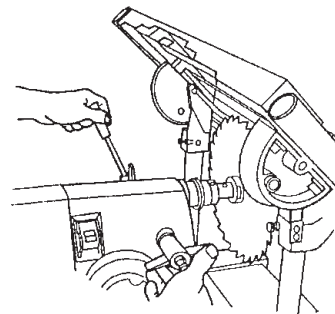

Figure C-35
33. Loosen the quill feed (shown in Figure C-35) and extend the quill so the saw blade is centered beneath the slot in the table insert. When it is centered, lock the quill feed.